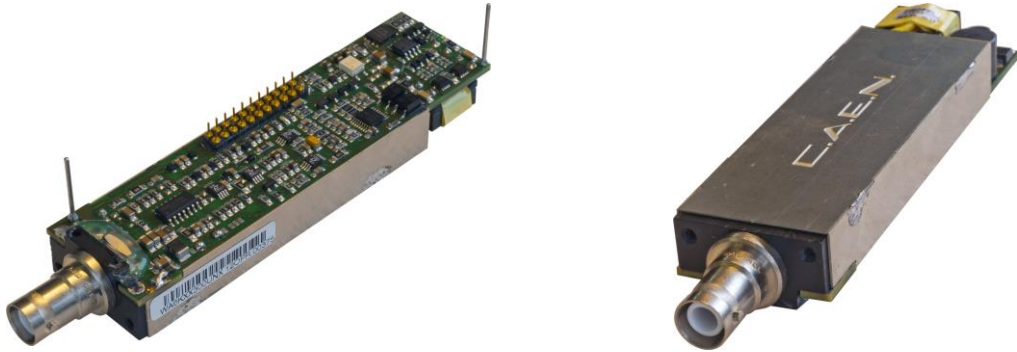

Fig. 6.1: HV output component
The Dual Digital MCA houses High Voltage (HV) outputs to power supply up to two detectors (the HV component is shown in Fig. 6.1). DT5780, DT5780SD and DT5780SC differ from the voltage and current bias specifications suited for different kind of radiation detectors. The boards are orderable with either positive, negative or mixed polarity (see Tab. 1.1). HV outputs are delivered through SHV connectors.